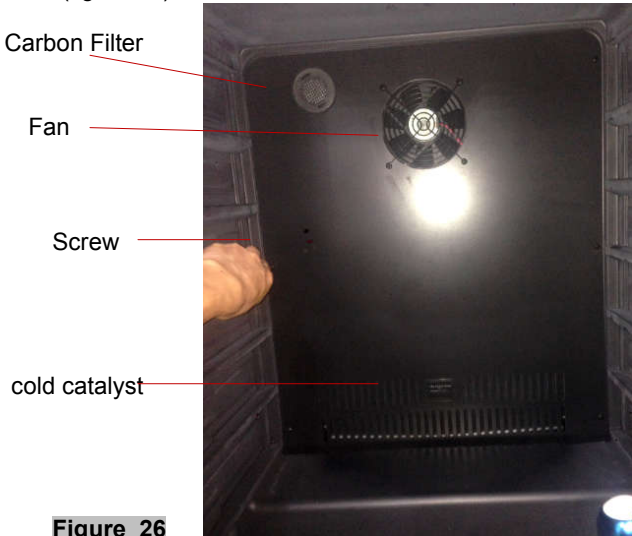

Figure 26
1. Loosen six screws. Pull out the rear air duct cover. (figure 26)